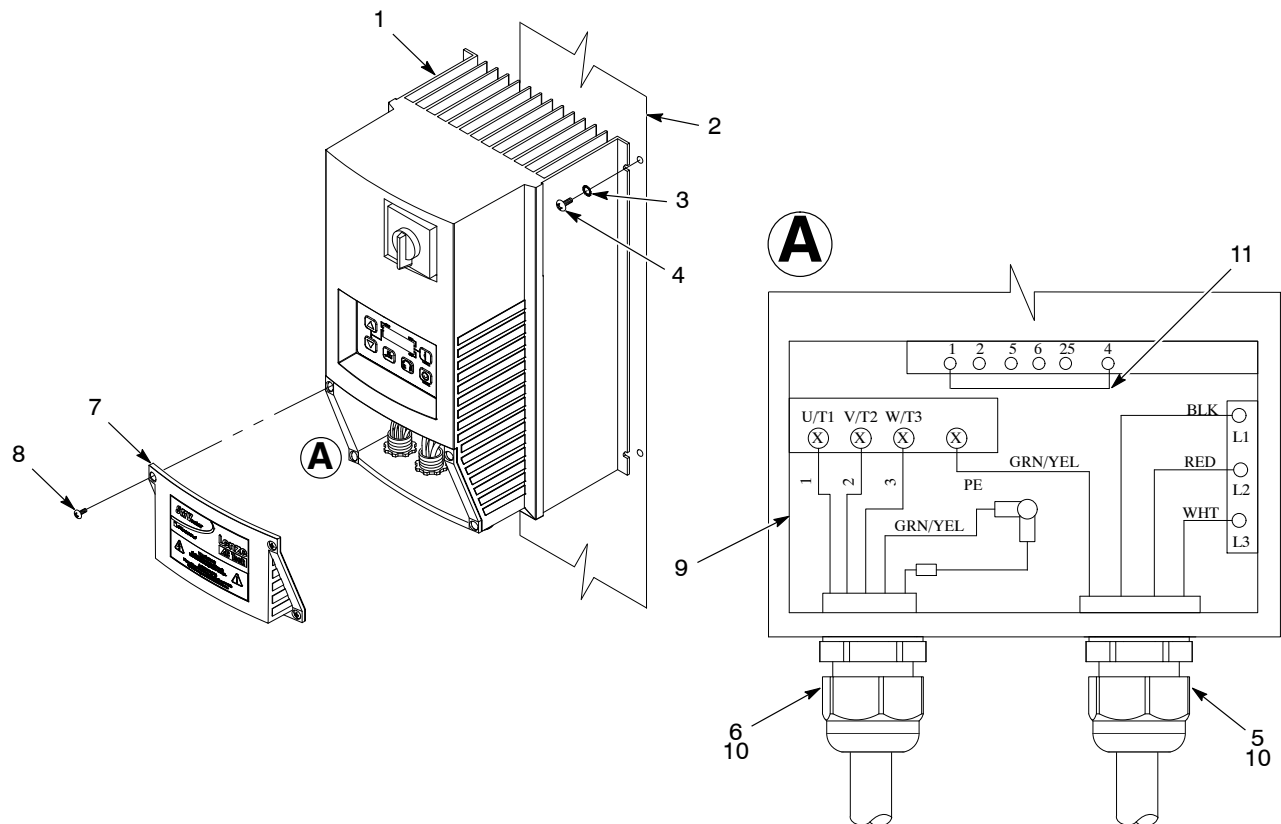

Figure 13 Replacing the VFD
Jumper wire incorrectly installed or not installed at VFD terminals.	Refer to Figure 13, item 11 on page 24. Verify jumper installation, or install jumper as shown.